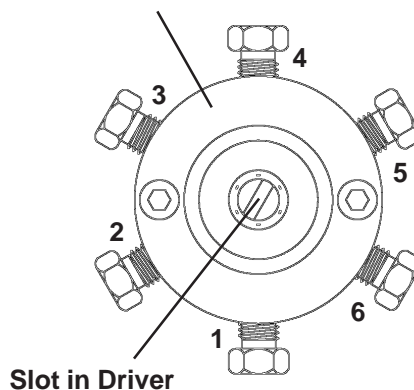

Figure HT-10 Proper Orientation of Rotor ID Letter
1. Place the clean rotor on the pencil magnet and orient it so that the tab will properly engage the slot of the drive mechanism (Figure HT-10).